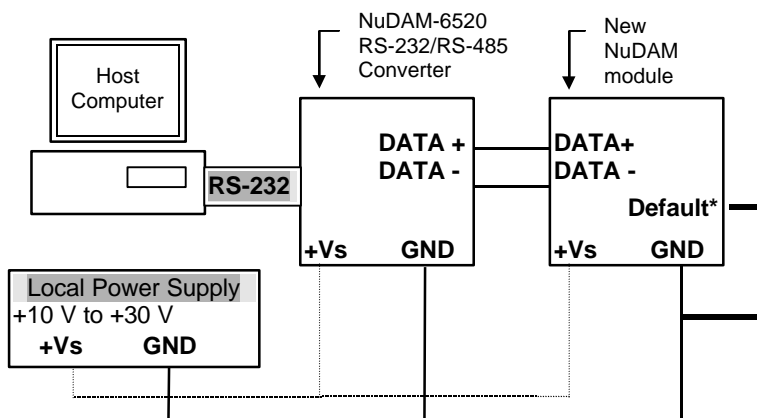

Figure 2-1 Layout for Initialization the NuDAM module
2. Connect a brand new NuDAM module with the RS-485. Set the module in *Default State* by shorting the **DEFAULT*** pin. Refer to Figure 2.1 for detailed wiring.